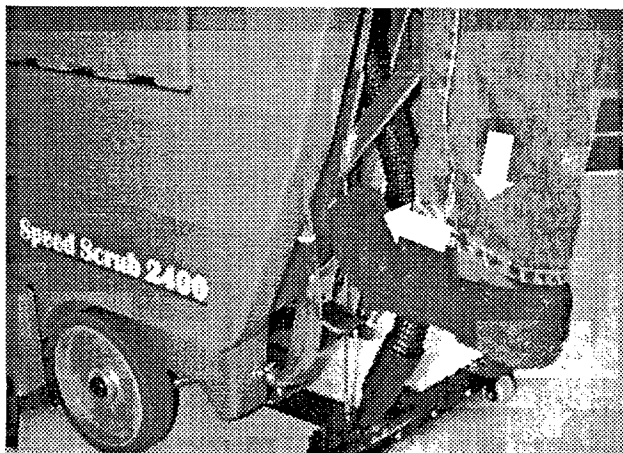

FIG. 13
4. Lower brush head: Step down firmly on top brush lift foot pedal and push pedal forward to release. *(Figure 13)*